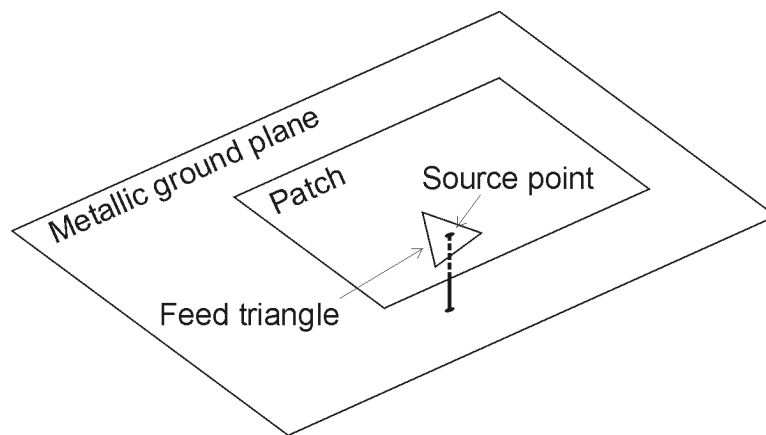

Figure 14-3: Excitation of a patch antenna with a vertical pin
- Select triangle:* When this item is selected, the *Source label* field becomes active. Here one specifies the label of the triangle to excite. The feed point is at the centroid of the triangle (see Figure 14-3). If there are more than one triangle with this label, the excitation is placed on the one with the highest element number. Alternatively, the user may select the item *Set source position*, and specify the Cartesian coordinates of the feed point in the *Coordinates of node*, group. (These values are in m and optionally scaled by the SF card.) FEKO will excite the triangle whose centroid is closest to the specified coordinate.
An example of the excitation is shown in Figure 14-3. A typical application of the A4 card is given in `example_30b.pre` (*Scripting examples*). It is of course possible to discretise the vertical pin (into segments) and feed one of the segments with a voltage source (A1 card). The advantage of the A4 card is that there are no vertical currents, which results in substantially simpler Green's functions and a significant reduction in computing time.